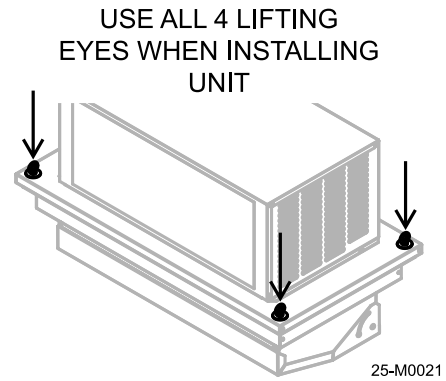

Figure 3-5
1. Always attach suitable lifting straps or chains to all four eye bolts on the plug unit when lifting, refer to Figure 3-5.